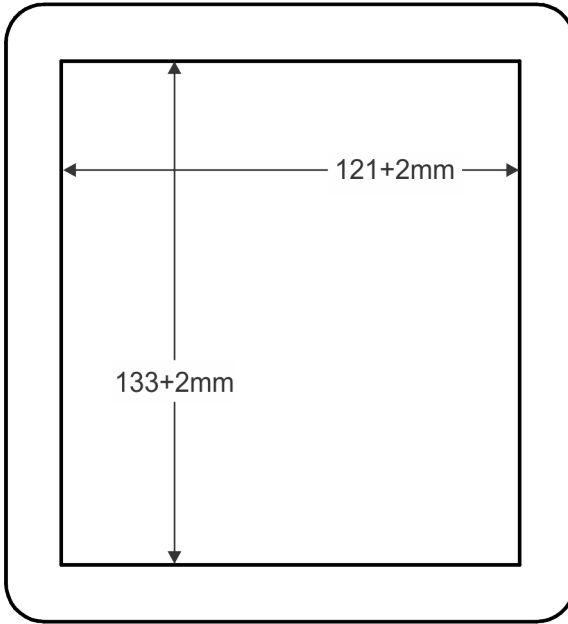

Figure 4: Cut out Dimensions (not to scale)
4. Following the **inside** edge of the template, cut a hole in the table surface with a sabre or keyhole saw according to the dimensions shown in Figure 4 (not to scale).